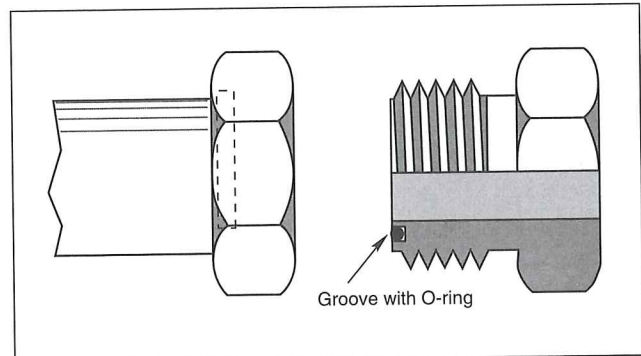

Fig. 9-28 — Flat-face O-ring fittings seal by pressing the O-ring against a finished metal surface.
**Flat-face O-ring.** These connectors have a recessed O-ring seal held in a circular groove on the male connector, Fig. 9-28. It mates with a flat, finished surface on the female end when assembled. These are suitable for 6,000 psi service.